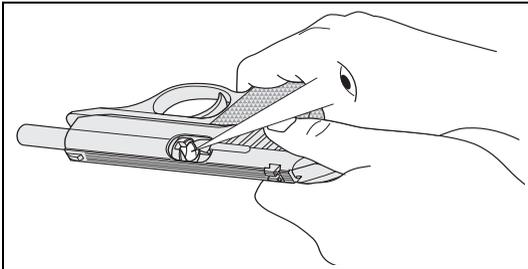

Fig. 3
5. Check visually and manually with a tool that the round was ejected and that no other round is chambered (see Fig. 3).
4. Check that no round is chambered (see Fig. 3).